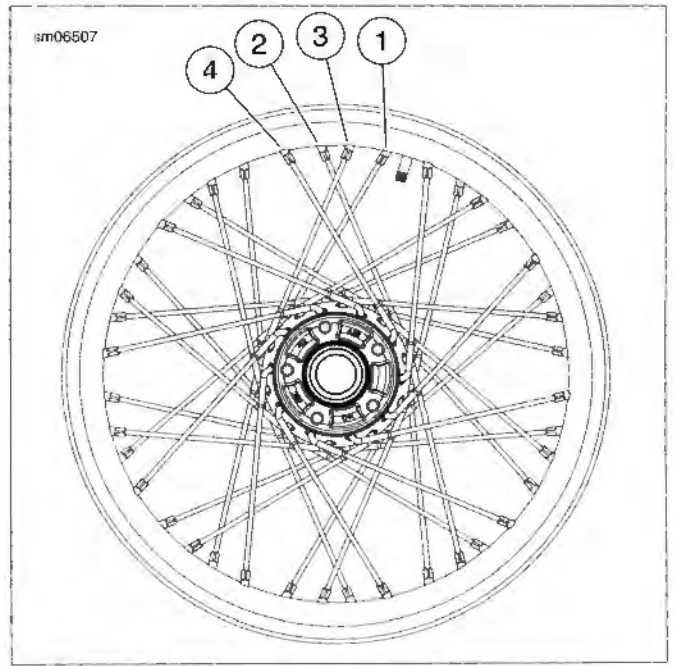

Figure 2-21. Center Valve Rim
- b. See Figure 2-21. Rim with center valve hole: start at the first hole counterclockwise (1) from valve stem hole.
- a. Starting at the 2nd hole counterclockwise (2) from first spoke installed, install inner spoke.
10. Starting at the first hole counterclockwise (3) from first spoke installed, install inner spoke. Install all remaining inner spokes in every 4th hole.
12. Install outer spokes in remaining holes (4).